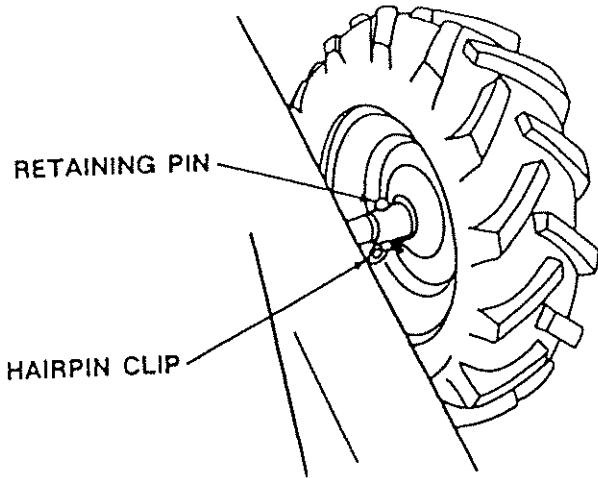

FIGURE 18
- Replace Retainer Pin and Hairpin Clip on inside of Wheel (Fig. 18) and remove blocks.